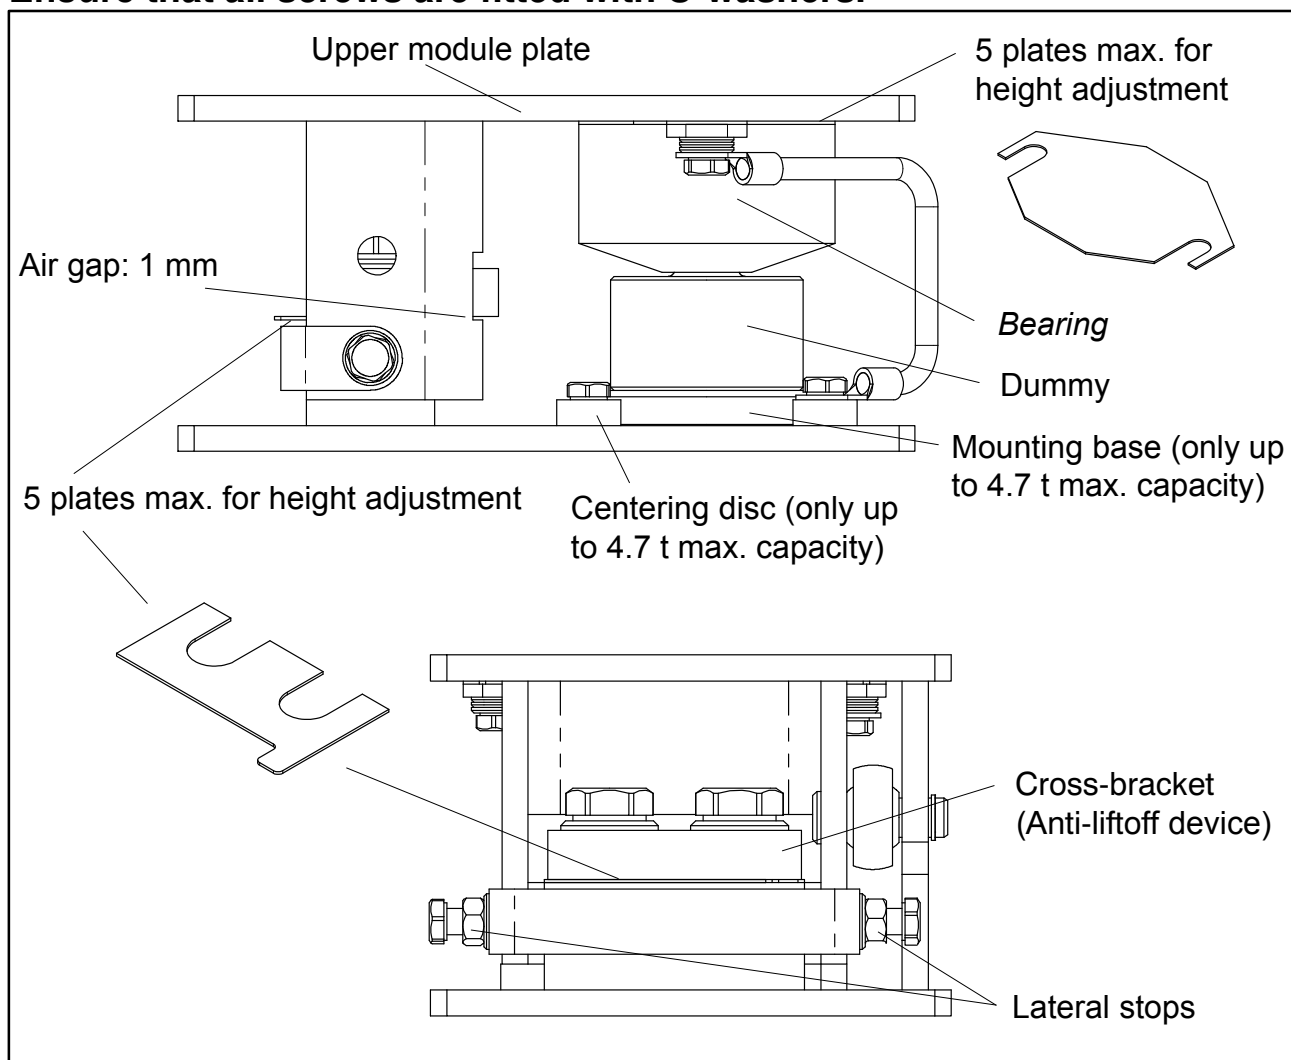

Fig. 7.1: Fitting of the spacer plates with 4.7 t version
Mounting of load cells up to a max. capacity of 4.7 t (see Fig. 7.1):
- Mount and adjust the anti-liftoff device by inserting plates underneath such that an air gap of about 1 mm results (see Fig. 7.1) with the tank empty.